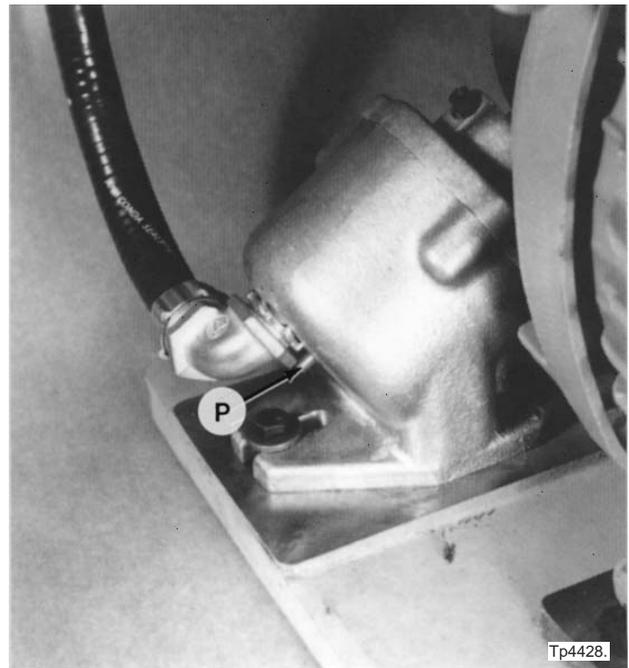

Figure 3.22 - Spindle Brake Adjustment
7. Turn adjusting screw "P", Figure 3.22, clockwise or counterclockwise until there is a .010" to .013" [.25mm to .33mm] clearance between the cork insert and the brake drum.
8. Turn adjusting screw “P”, Figure 3.22, counterclockwise until the cork housing is free from the brake.